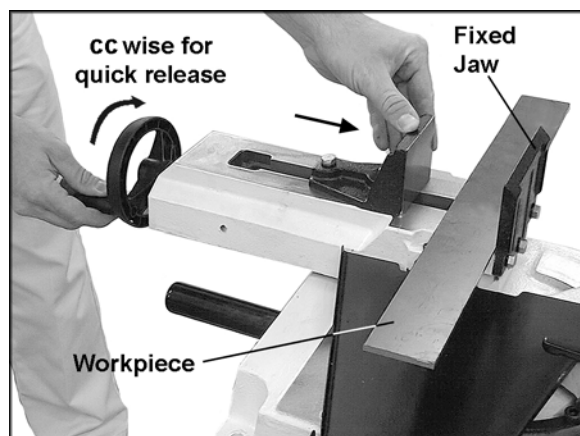

Figure 12
2. The vise has a quick-release feature which allows fast positioning of the movable jaw against the workpiece. Disengage the lead screw by rotating the vise handwheel counter-clockwise about 1/2 turn. See Figure 12.